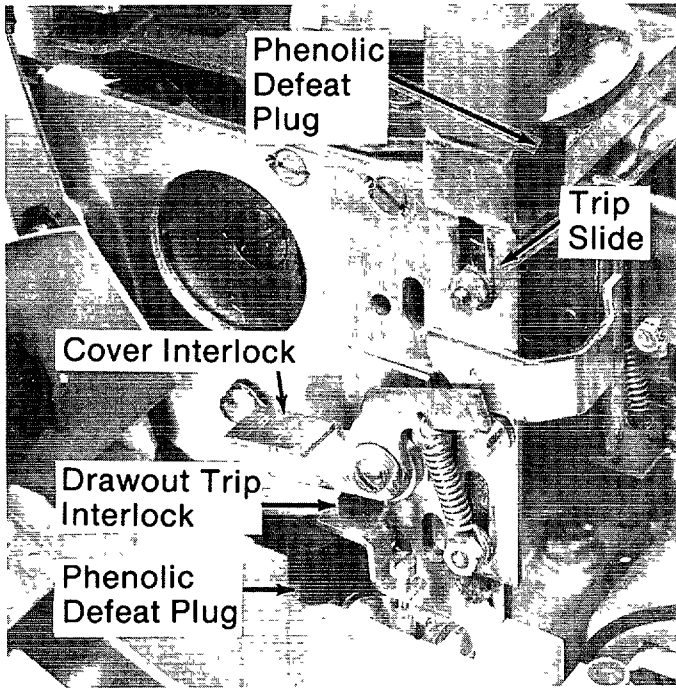

Fig. 3. View of breaker with old bell alarm removed and defeat plugs in position.
2. Disconnect the old bell alarm leads and pull them out of the access hole. To defeat the cover interlock used on late model devices, pull the trip slide up and use one of the ½-inch diameter by ¾-inch long phenolic defeat plugs (supplied with the kit) to prop it up as shown in Fig. 3. If the breaker is equipped with a drawout trip interlock, use a screwdriver to lift the interlock and prop it up with the second plug.